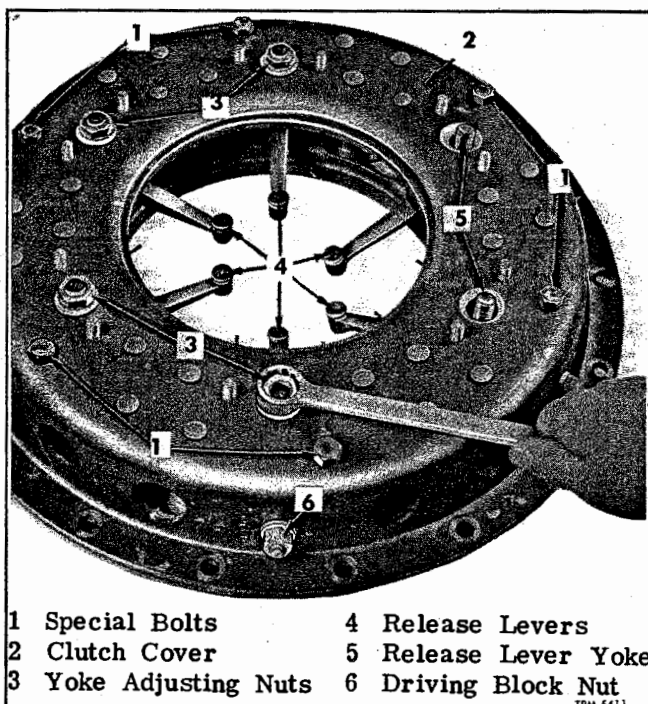

Figure 8—Yoke Adjusting Nut Removal
1. Remove nuts, washers, and thrust plate (48) used to lock each adjusting nut (11).
2. Remove adjusting nuts (fig. 8) from yokes. Special bolts will hold springs in compressed position while removing adjusting nuts.
3. Mark cover (25) and pressure plate (3) so that relative position will be known when reassembling; then remove six special cap screws (9), turning screws alternately and in gradual stages